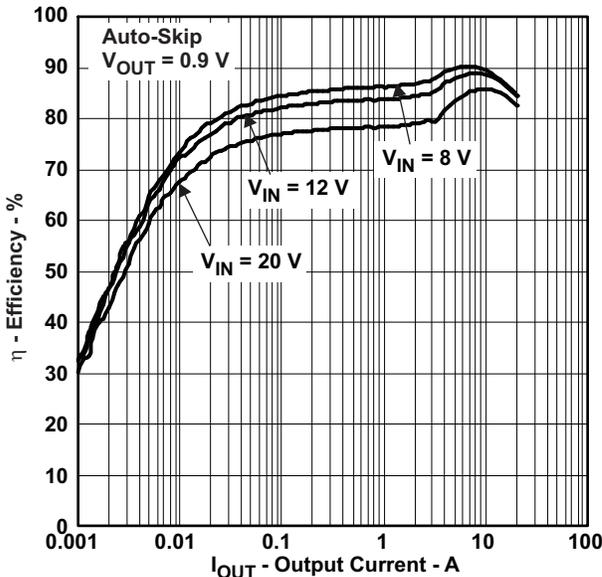
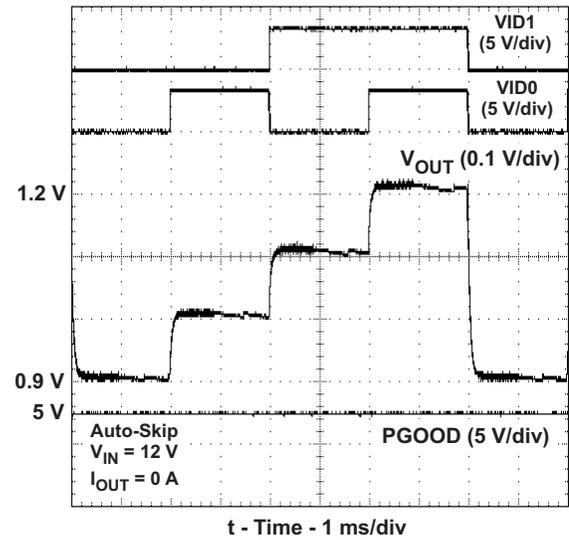

Figure 4. Efficiency at 0.9-V Output
Figure 18. Output Voltage Step-Up
5. Run the pulse generator again.  $V_{OUT}$  steps up from 0.9 V to 1.2 V as shown in Figure 18.
Figure 4 through Figure 18 present typical performance curves for TPS51217EVM-533.